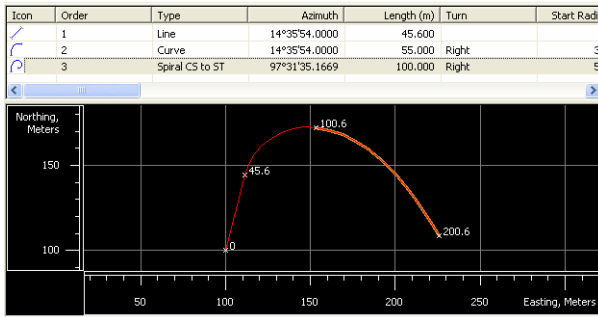

Figure 9-51. Table and Graph Pane for the Created Spiral
- Click **OK** to create (or add) the spiral. The Table and Graphic pane of the right panel of the *Road* tab displays the created spiral (Figure 9-51).